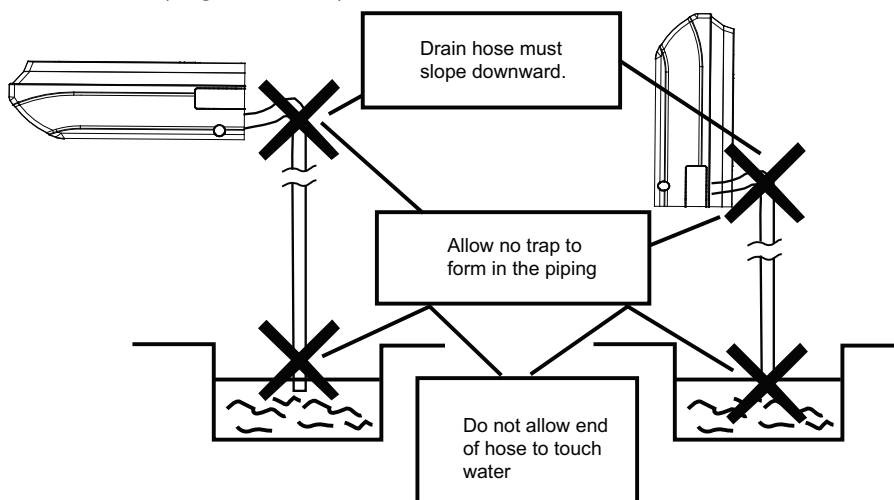

Figure 3-1-32
- (4). Connect the drain hose. (Figure 3-1-32)